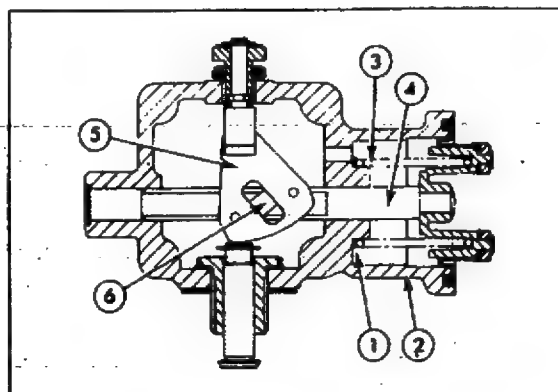

Fig. 61 Replacing Diaphragm Assy.
4. Coat both sides of diaphragm with 'Molecote Z' powder and apply anti-scuffing paste to moving parts. Place the thrust washer into the housing and assemble diaphragm spring and spindle assembly Fig. 61, ensuring that the flat on spindle lies against the side of the cam.